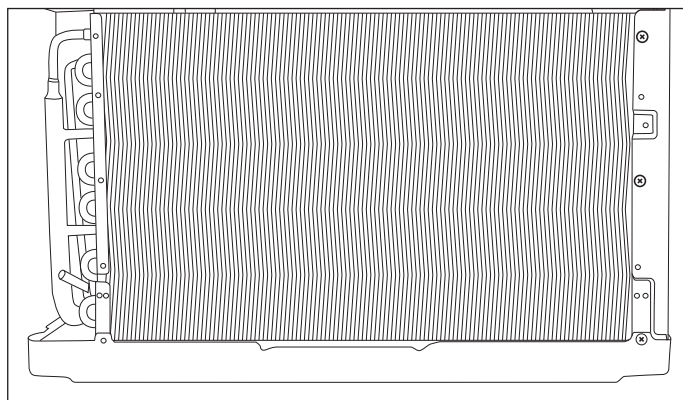

Figure 4-52.
4. Attach an approved self tapping line tap valve to the process tube. Connect refrigerant recovery system to tap valve. Turn on recovery system, open the line tap valve, and allow refrigerant to flow into an approved tank. (See Figure 4-52 and 4-53)